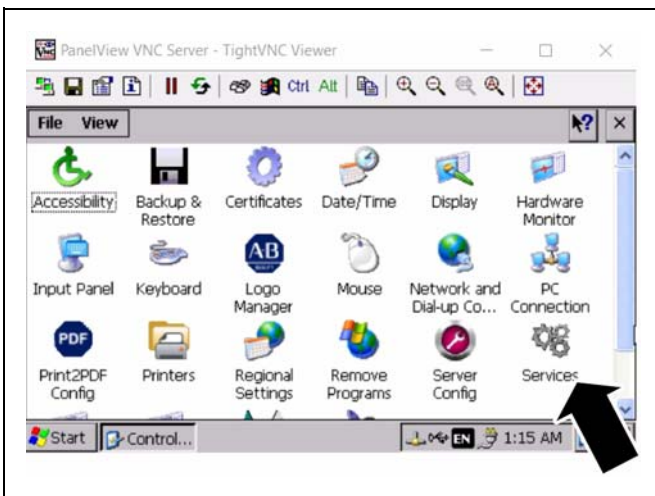
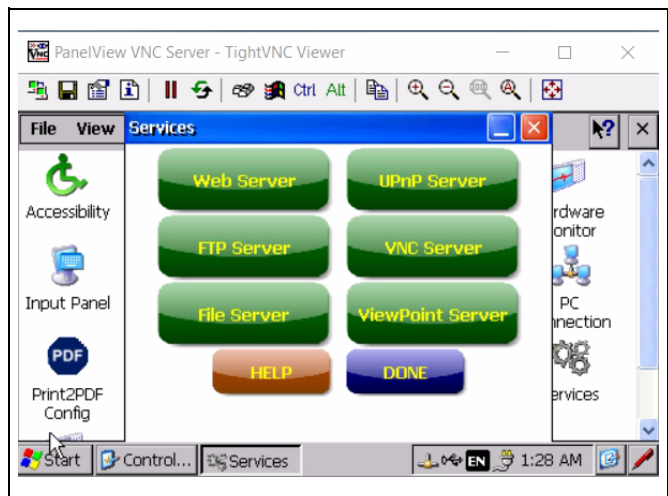

Figure 3R
Figure 3S
12. Double-click on Services. (See Figure 3R.) The screen should look like as shown in Figure 3S.